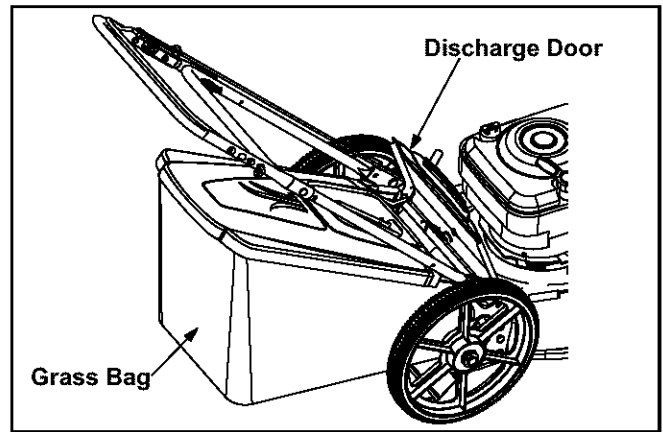

Figure 7
- Place the hooks, found on both sides of the grass catcher frame, over the chute door pivot rod at the rear of the mower. Release the rear discharge door. See Figure 7.